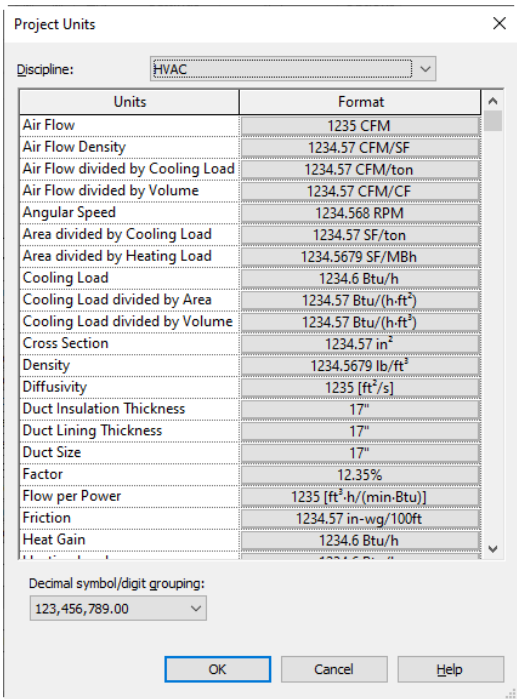

Figure 2-29 The Project Units dialog box
2. Project Units: Refer to Figure 2-29
- c. Specify the project units, refer to Figure 2-29.
- In the **Project Units** dialog box, select the **HVAC** option from the **Discipline** drop-down list; various units required in the HVAC workflow are displayed in a table located below the **Discipline** drop-down list, refer to Figure 2-29.